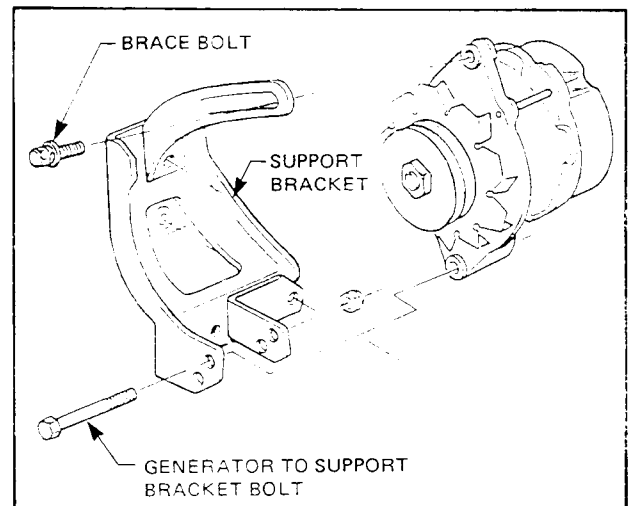

Figure 8B-1
3. Remove generator brace bolt (Fig. 8B-1), disengage fan belt from generator pulley. Loosen generator to support bracket bolt and nut (Fig. 8B-1) and swing generator down away from the engine block.